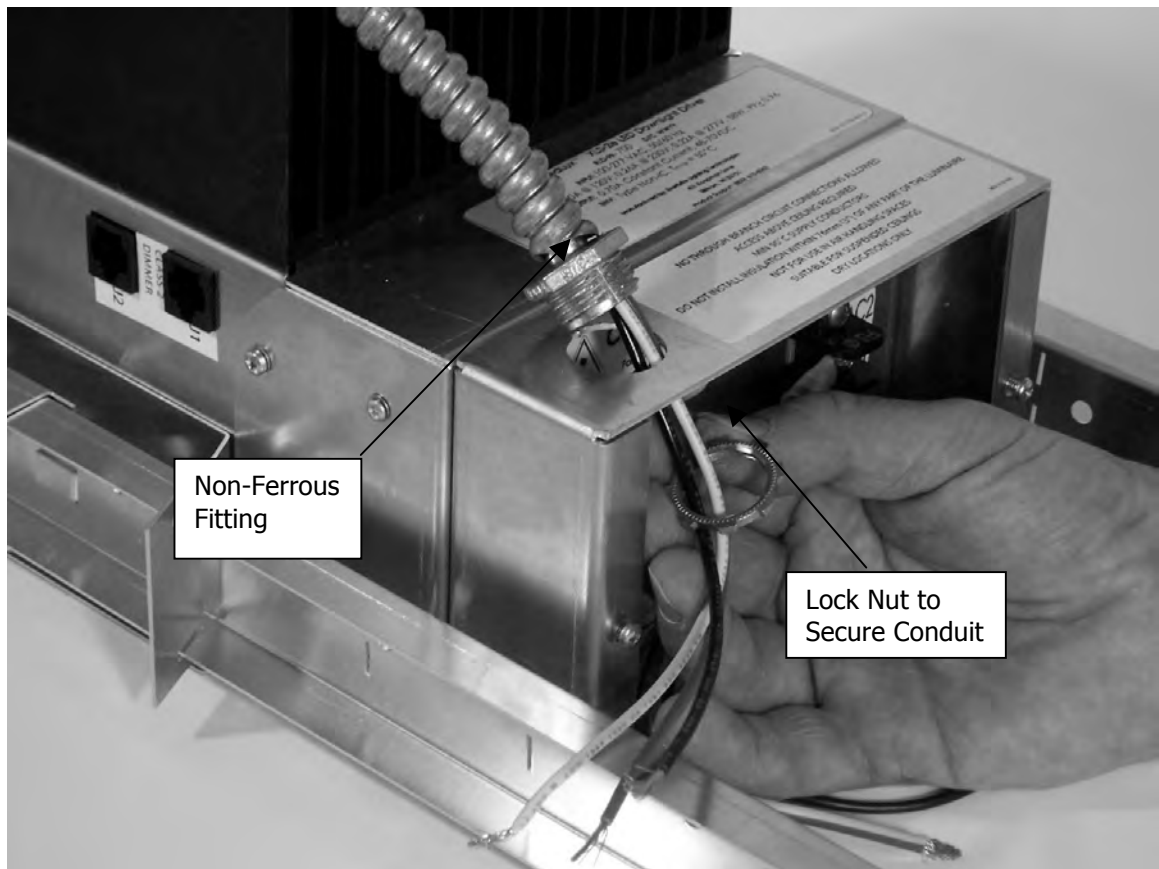

Figure 9: AC Mains Feed into Junction Box
12. Feed the AC Main wires and conduit through the junction box knockout hole using a non-ferrous fitting. See Figure 9.
13. Tighten the conduit fitting to the junction box using a lock nut as shown in Figure 9.